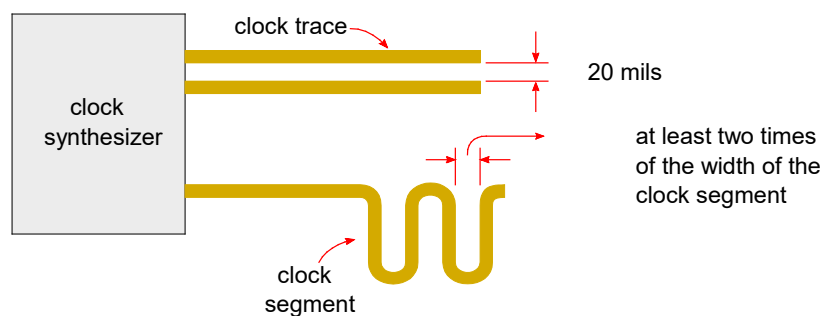

Figure 7: Suggested clock trace spacing
- The minimum space between one clock trace and adjacent clock traces is 20 mils. The minimum space from one segment of a clock trace to other segments of the same clock trace is at least two times of the clock width. That is, more space is needed from one clock trace to others or its own trace to avoid signal coupling (see Figure 7).